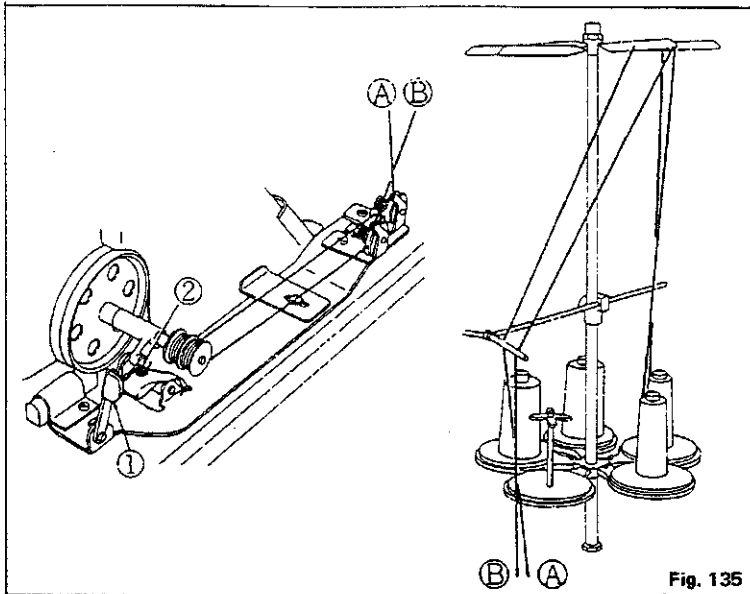

Fig. 135
- ① Put two bobbins into the thread winder shaft as far as they will go.
- ② Thread the winder in the order as illustrated and wind by hand the thread on to each bobbin four or five turns.
- ③ Push in winder thread guide ①.
- ④ The thread winder will automatically stop as soon as it has wound up the bobbins to a predetermined amount.
It is recommendable to wind the bobbin about 80% of its full capacity with the cotton thread or 60 to 70% with the synthetic thread. This can be adjusted by tightening screw ② (Fig. 135) to increase or loosening to reduce the amount of thread to be wound.